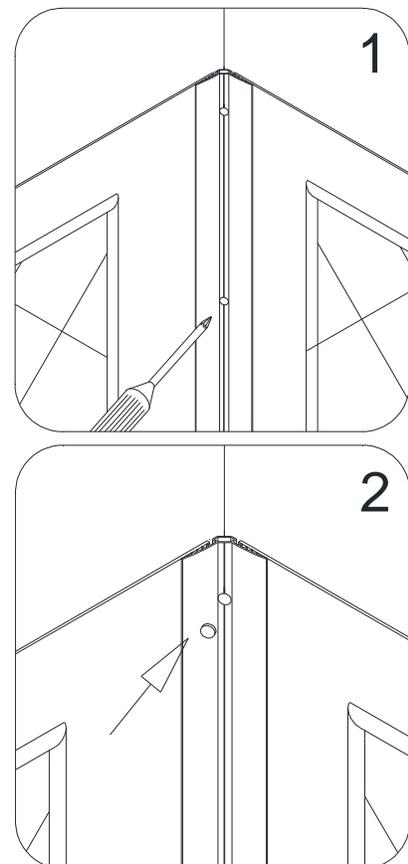

Fig. 24
See Fig. 24 for details.
25. Mark the location for the **Shelf brackets (04)** according to the measurements in Fig. 24 and Fig. 25.1. Drill the holes using  $\text{Ø}5/16''$  drill bit and insert the **Wall anchors (06)**.